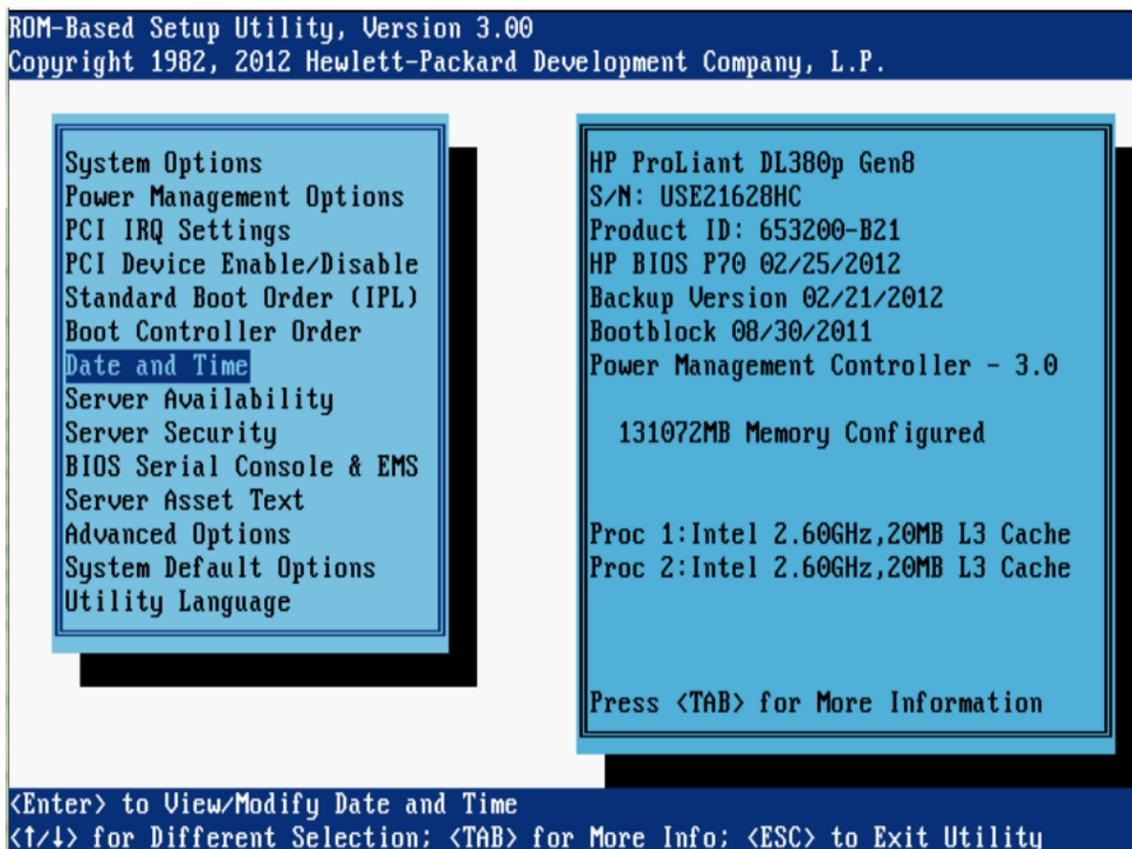

Figure 3: Example HP BIOS Setup
1. Figure 3 is a sample output screen indicating the initial boot from the install media was successful. The information in this screen output is representative of TPD 7.0.0.0.0.